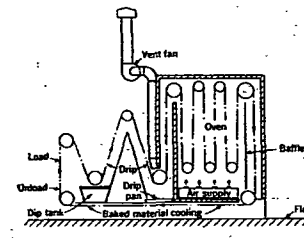

FIG. 3. SMALL PART MULTIPLE PASS OVEN
3. Tunnel dryers, conveyor type, (Figs. 3 and 4).
For low temperature work up to 200 F ovens and dryers are commonly built of two thicknesses of insulating board (fireproof preferred), with air space between. As the temperature increases materials better able to withstand the heat must be used. Metal lined ovens are easy to keep clean, and many high temperature dryers up to 1000 F are made of metal panels with insulation between. Care should be taken to avoid *through metal* (metal extending through the oven wall from inside to out). Batch type ovens are entirely closed while in use and control of air leakage is easily taken care of. In the continuous dryer where the ends are open, heat and air leakage becomes important. Warm air leaking out of the ends of ovens means a heat loss, and often the temperature and humidity outside the oven becomes unbearable. For this reason, inclined or bottom entry ovens are used, as the warm air leakage can be more easily controlled. See Figs. 3 and 4.